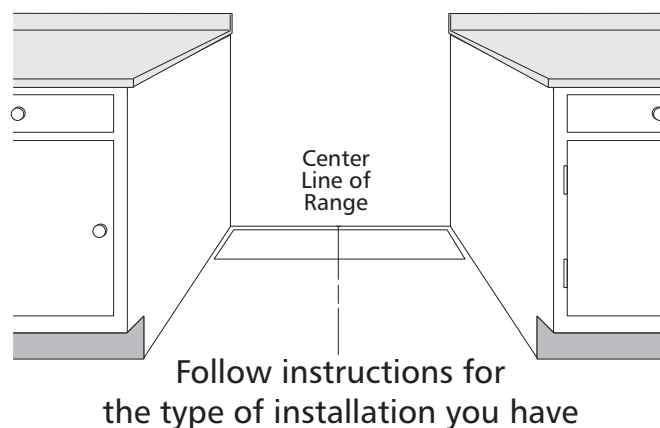

Figure 5
**If range will be installed with a cabinet on both sides**, draw a center line on the floor between the cabinets (see figure 5). **If back of range will not be flush with the wall** (the location of the outlet may not allow the range to be positioned against the wall), draw a line on the floor where the back edge of the range will be. Now install anti-tip bracket (see "Anti-Tip Bracket Installation", page 8).